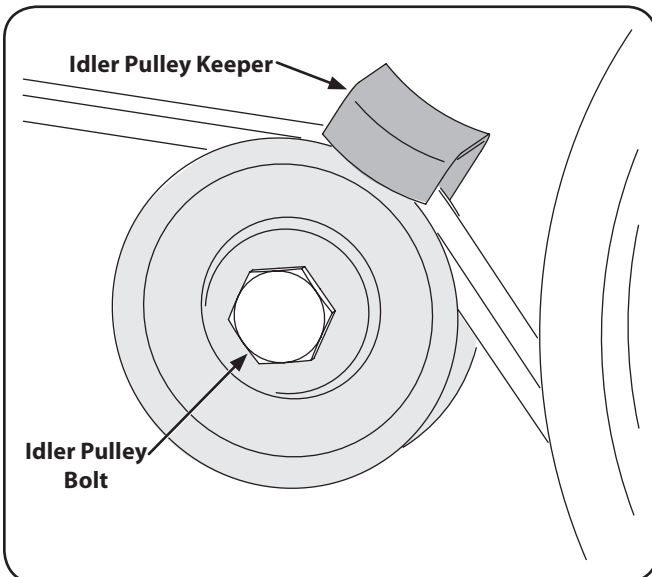

Figure 1-2
3. Remove the idler pulley bolt and move the belt from under the idler pulley keeper. See Figure 1-2.